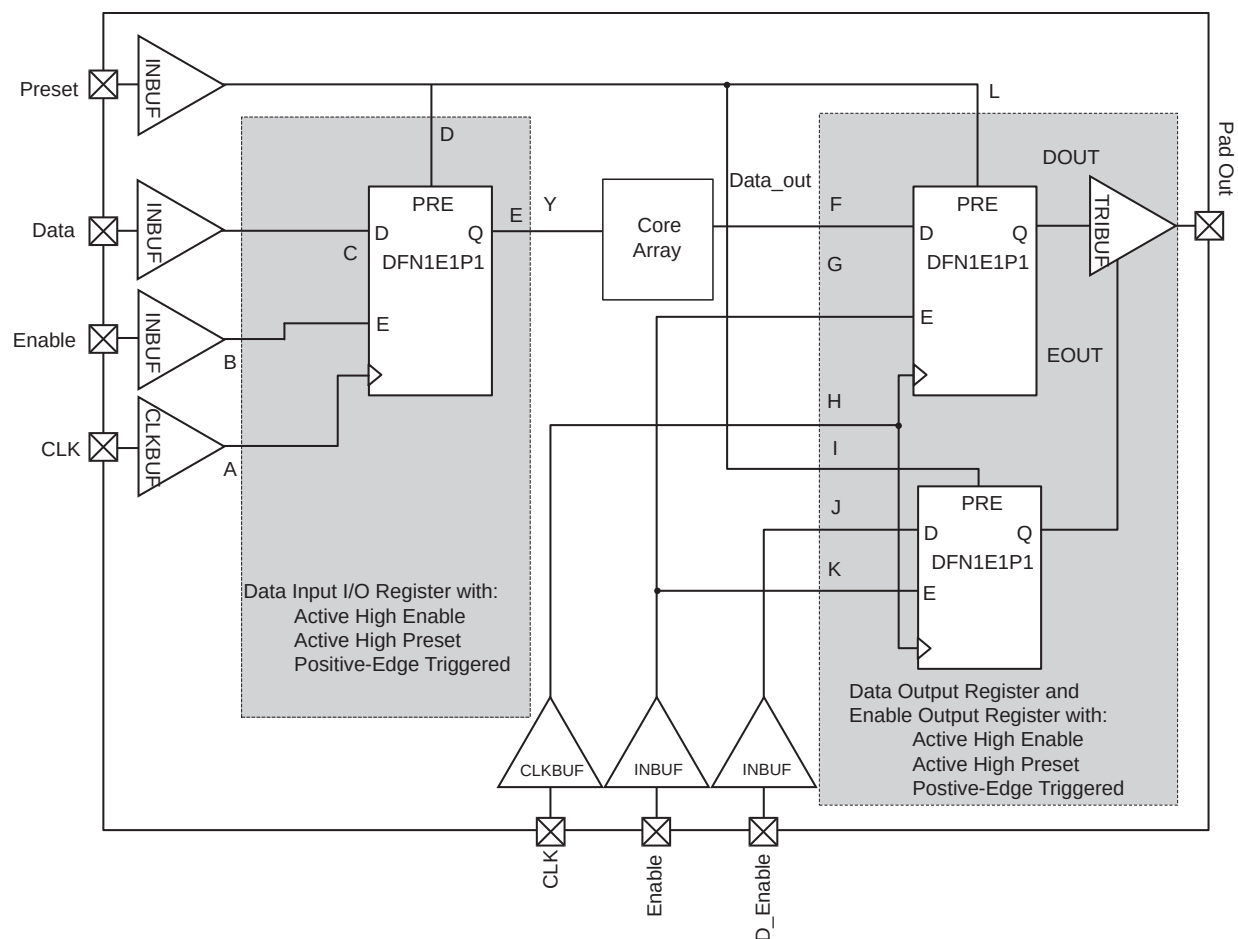

**Figure 2-14 • Timing Model of Registered I/O Buffers with Synchronous Enable and Asynchronous Preset**
*Note:* \*See Figure 2-14 on page 2-68 for more information.